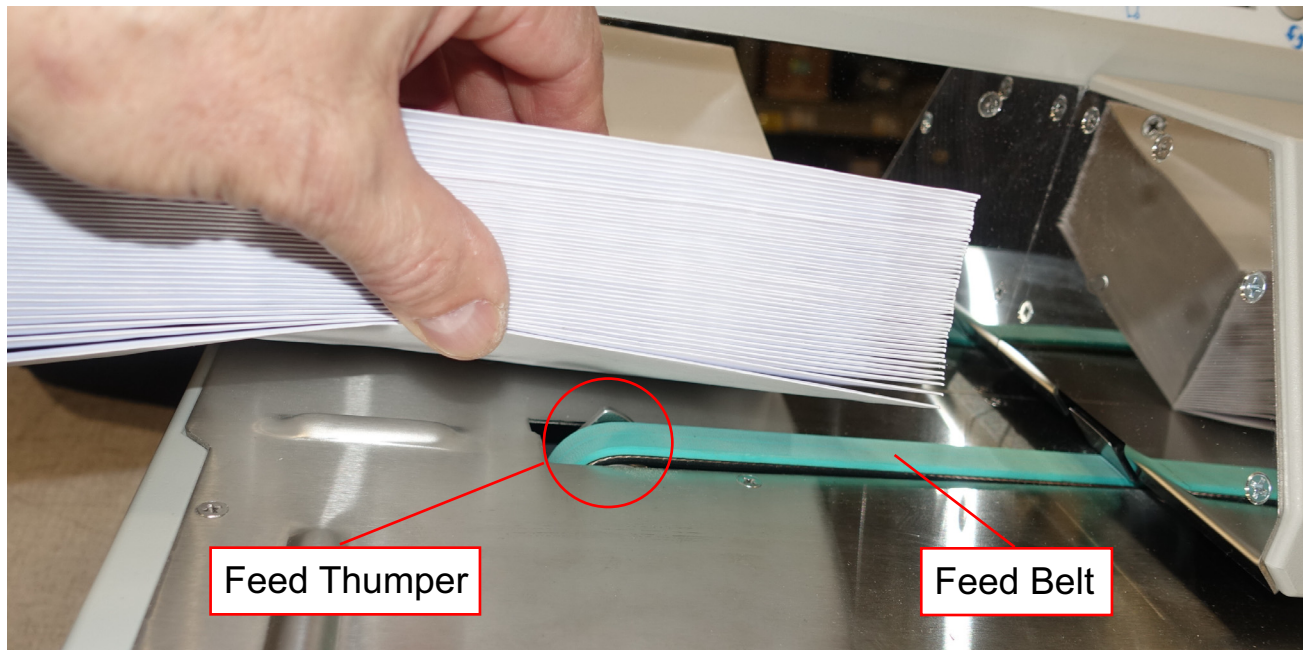

Figure 3-14: Feed Thumper
- The Feed Thumper (a rotating cam Figure 3-14) helps to jog the mail for improved feeding.